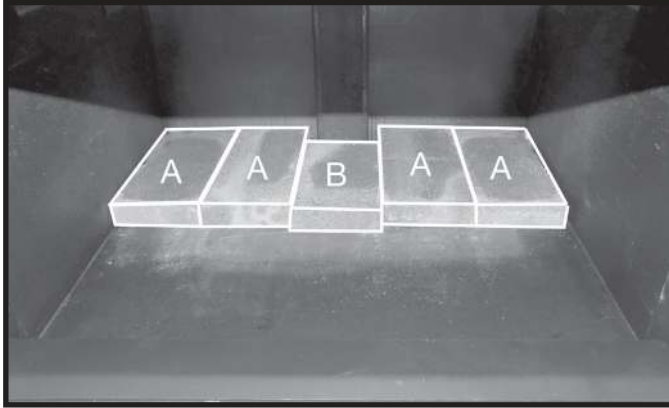

Figure 25: Back row of bricks Summit Insert LE.
1. Begin by placing 2 full "A" bricks into the left rear corner and the right corner of the firebox floor. Continue by placing the short "B" brick in the center up against the baffle tube (Figure 25).